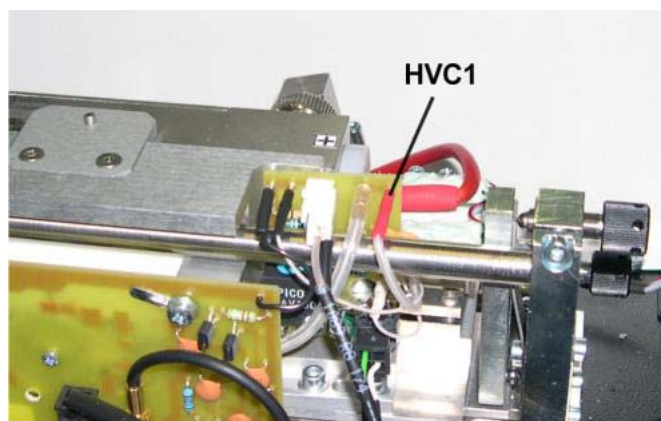

Fig.11 FBC board view
3. Detach high voltage connector HVC1 on oscillator (see Fig.11).